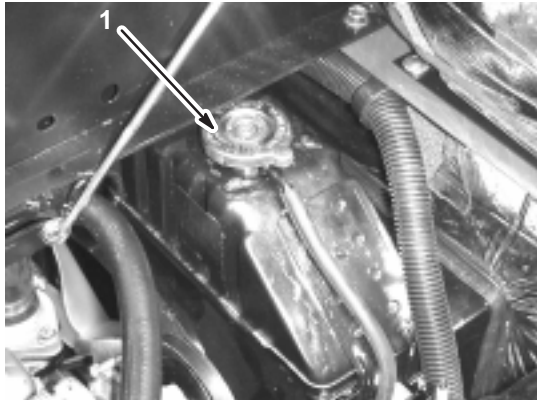

Figure 37
2. When the engine is cool, remove the radiator cap (Fig. 37).